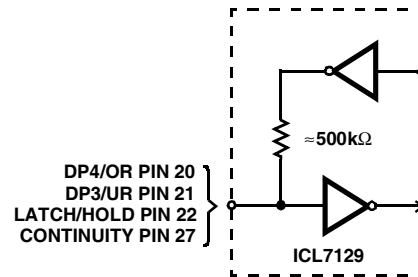

FIGURE 6. "WEAK OUTPUT"
not desired in an application it can easily be overridden by connecting the pin to V+ (HI) or DGND (LO). This connection will not damage the device because the output impedance of these pins is quite high. A simplified schematic of these input/output pins is shown in Figure 6. Since there is approximately 500kΩ in series with the output driver, the pin (when used as an output) can only drive very light loads such as 4000 series, 74CXX type CMOS logic, or other high input impedance devices. The output drive capability of these four pins is limited to 3μA, nominally, and the input switching threshold is typically DGND + 2V.